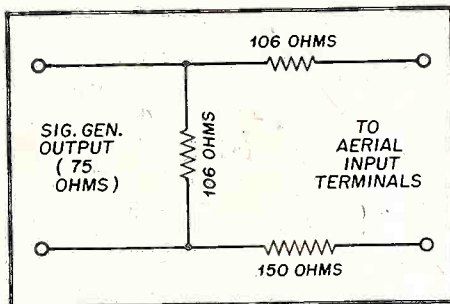

Fig. 4- Matching network
Figure 4 shows an impedance-matching network for coupling the signal generator to the aerial input terminals of the receiver. This network, which is designed so that the input impedance is 75 ohms and the output impedance is 300-ohms, is used to match a 75 ohm generator to a 300-ohm aerial input circuit. The resistor used in this network should be of carbon composition construction, and should be chosen from a group to obtain values close to those indicated. An aerial matching jig, which consists of a matching transformer and connecting box may be used in place of the resistor network.
2. Connect the AM (marker) generator to the 300-ohm aerial input through the aerial input matching network. See fig. 4.
4. Connect the FM (sweep) generator to the 300-ohm aerial input through aerial input matching network. See fig. 4.